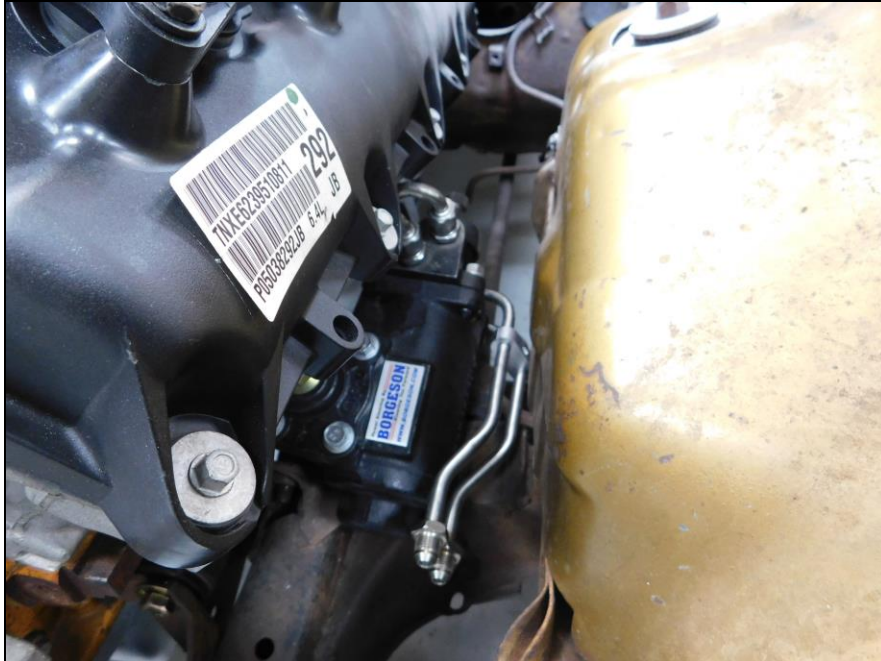

Figure 1
- Install the lines on to the Bergeson Power Steering box as shown in **Figure 1**. Hand tighten only .